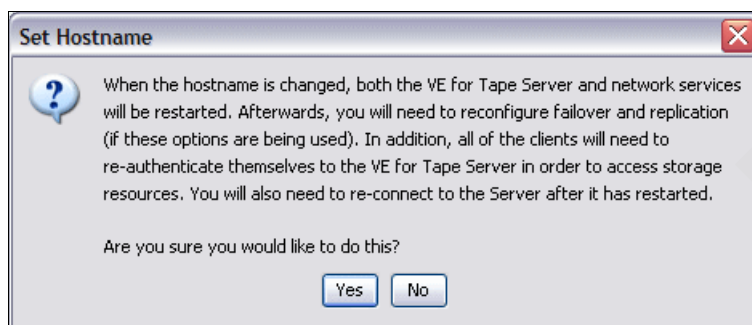

Figure 5-29 Set Hostname Notification
3. A warning appears (Figure 5-29), click **Yes**.